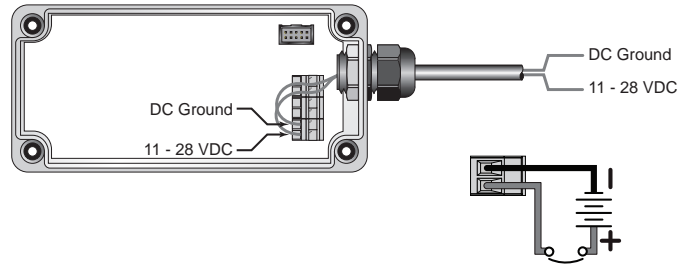

Figure 8: DC power connections
Power the TFXL meter with a Class 2 direct current (DC) power source. The power source should be capable of supplying 12...28V DC at a minimum of 250 milliamps. With the power from the DC power source disabled or disconnected, connect the positive supply wire and ground to the field wiring terminals in the flow meter. See *Figure 8 on page 14*. A wiring diagram is on the inside cover of the meter enclosure.
2. Connect the DC power to 12...28V DC In and DC Gnd, as in *Figure 8*.
3. Connect an 12...28V DC Class 2 power source as illustrated in *Figure 8*. TFXL meter terminal blocks can accommodate wire up to 14 AWG.